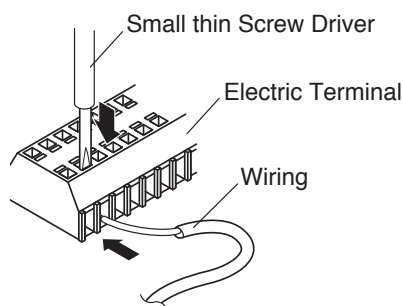

Fig.2-10 How to Connect Wiring
* How to connect wiring to the Electric Terminal (Fig.2-10)